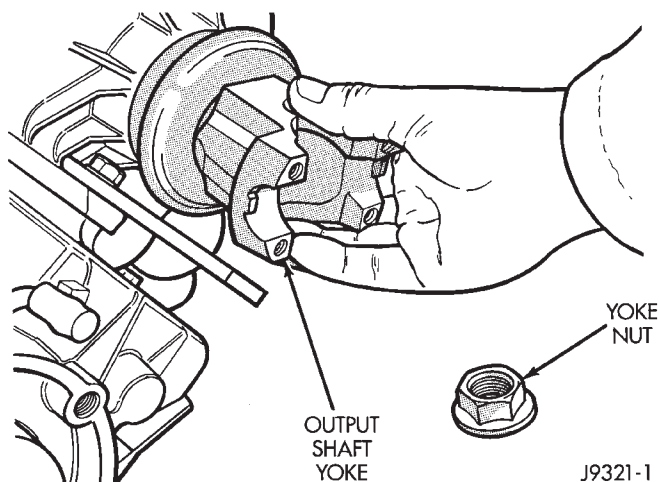
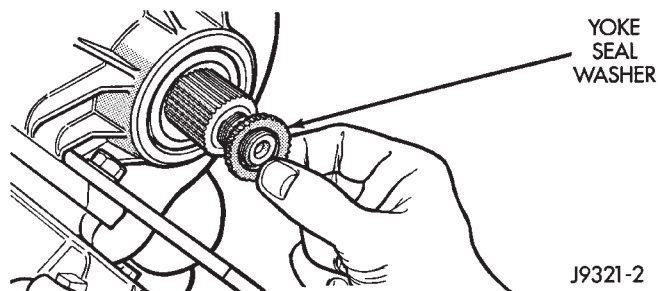

Fig. 75 Output Shaft Yoke Installation
Fig. 76 Yoke Seal Washer Installation
(3) Install new seal washer on front output shaft (Fig. 76).
(4) Lubricate yoke hub with transmission fluid and install yoke on front shaft.
(5) Install new seal washer on front shaft.
(6) Install yoke and new yoke nut on front output shaft (Fig. 75).
(7) Tighten yoke nut to 122-176 N·m (90-130 ft. lbs.) torque. Use Tool C-3281, or similar tool to hold yoke while tightening yoke nut.